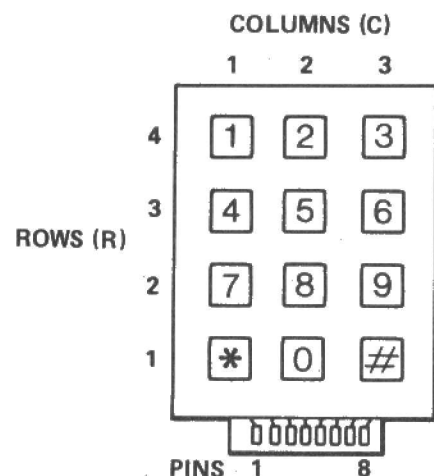

Figure 1. Keypad layout.
There are several types of keypad available with either 12 or 16 keys, wired linearly or in a matrix. Using a matrix-wired keypad allows direct connection to the user port without the need for additional circuitry. For this project a BT type 12-key pad arranged in a 4X3 matrix was chosen (see Figure 1) but a 16-key 4x4 matrix could